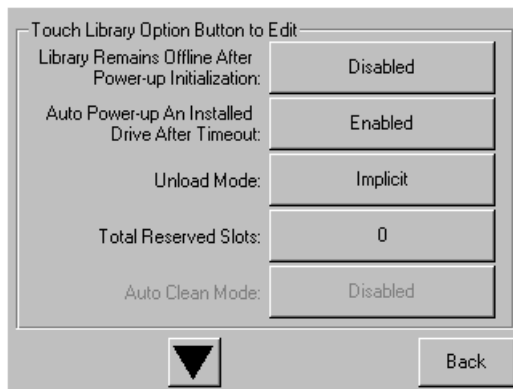

Figure 28 Total reserved slots screen
2. On the **Library** options screen, press the ▼ to scroll to the screen that contains the **Total Reserved Slots** option (see Figure 28).